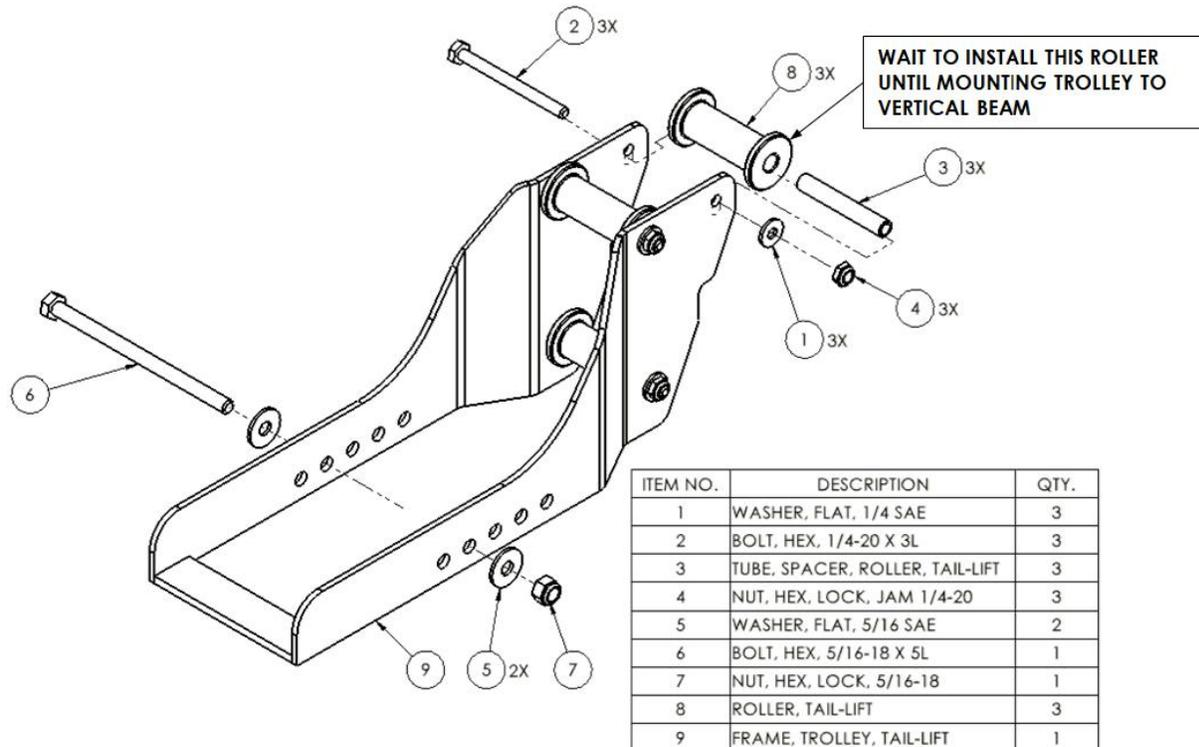
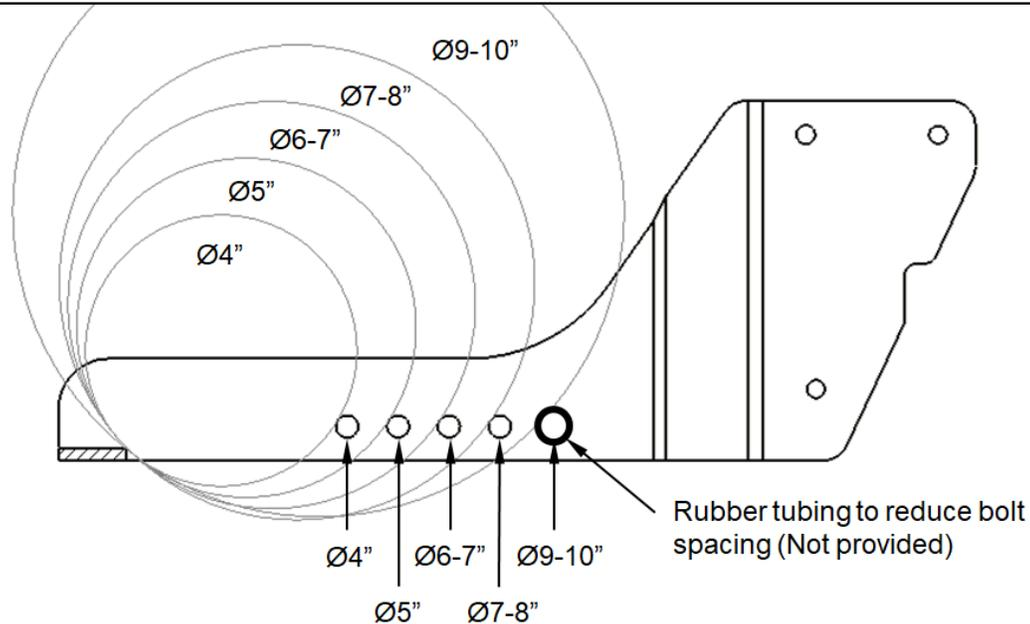

Figure 5
Figure 8
### Trolley Assembly (Figure 5)
### Trolley Setup For Tire Size (Figure 8)
2. Insert the 5/16 bolt (Item 6, Figure 5) in the corresponding recommended location for the Tire diameter (Figure 8)